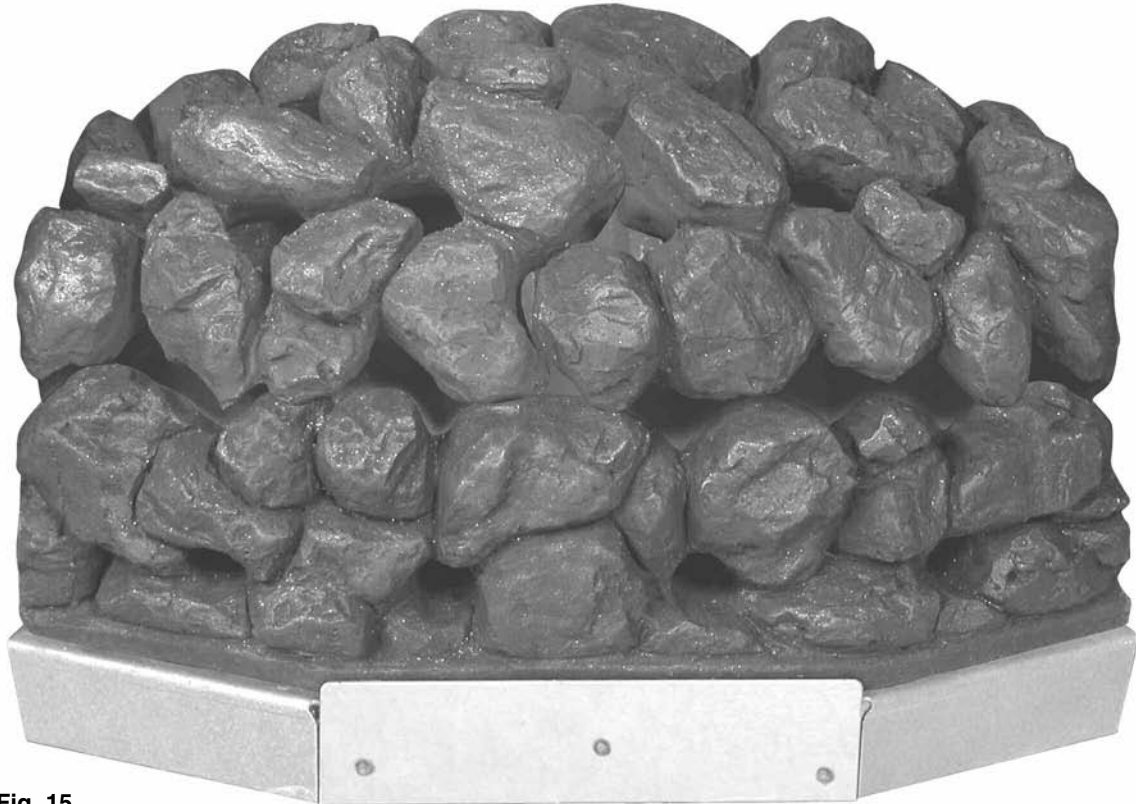

Fig. 15
5. Finally check that all the coal pieces are 'nested' together correctly (Fig. 15).